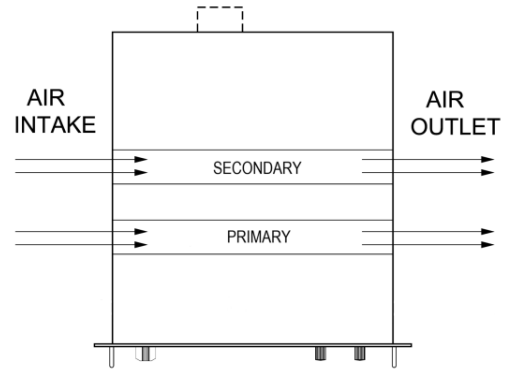

Figure 6.6: The fans are located at the left side and blow through the unit.
- Up to 4 interfaces can be plugged in the sockets at the rear side of the unit, see Figure 6.6.